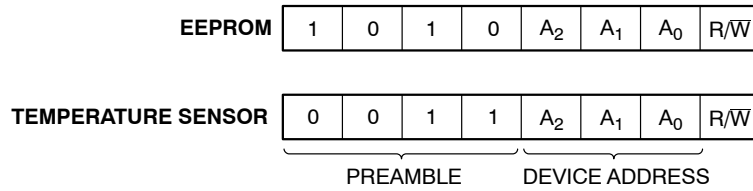

Figure 12. Slave Address Bits
The Master initiates data transfer by creating a START condition on the bus. The Master then broadcasts an 8-bit serial Slave address. The first 4 bits of the Slave address (the preamble) select either the Temperature Sensor (TS) registers (0011) or the EEPROM memory contents (1010), as shown in Figure 12. The next 3 bits, A2, A1 and A0, select one of 8 possible Slave devices. The last bit, R/\overline{W} , specifies whether a Read (1) or Write (0) operation is being performed.